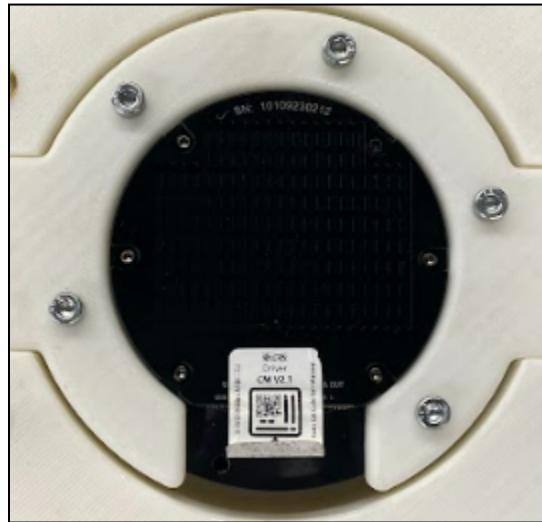

Figure 4: J1 Motor attached to J1 Motor Holder
- Using 5 M4x15mm screws , attach the J1 Motor (Cube Mars AK10-9) to the J1 Motor Holder as seen in Figure 4. Ensure that the motor's electrical wiring is not pinched or obstructed by the PLA part.